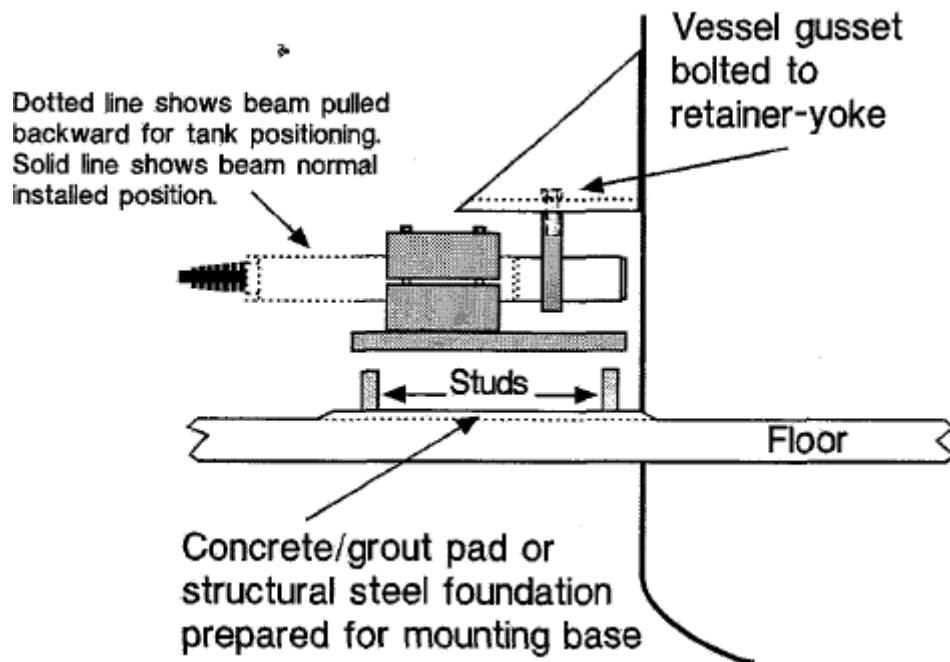

Figure 12. KIS Installation Arrangements.
(4) Mechanical Installation (Figure 12):